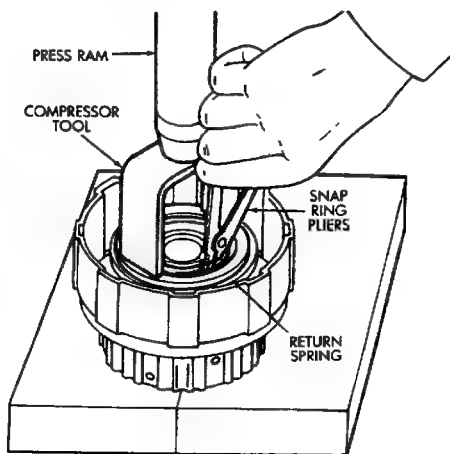

Fig. 7 Removing Piston Return Spring Snap Ring
- (1) Lubricate and install replacement O-rings on clutch piston.
- (2) Install clutch piston in drum and install return springs on piston.
- (3) Compress piston return springs and install snap ring (Fig. 7). Be sure snap ring end gap is not aligned with spring retainer tab.